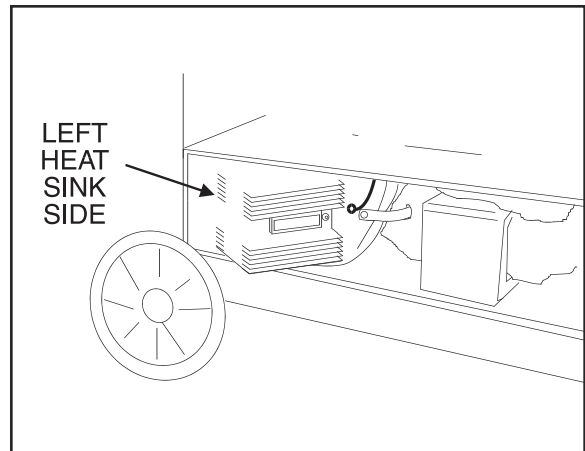

FIGURE F.17 - Heat Sink Lead Disconnection
6. Pivot the SCR Assembly counter-clockwise to provide access to the right side heat sink. See Figure F.17.